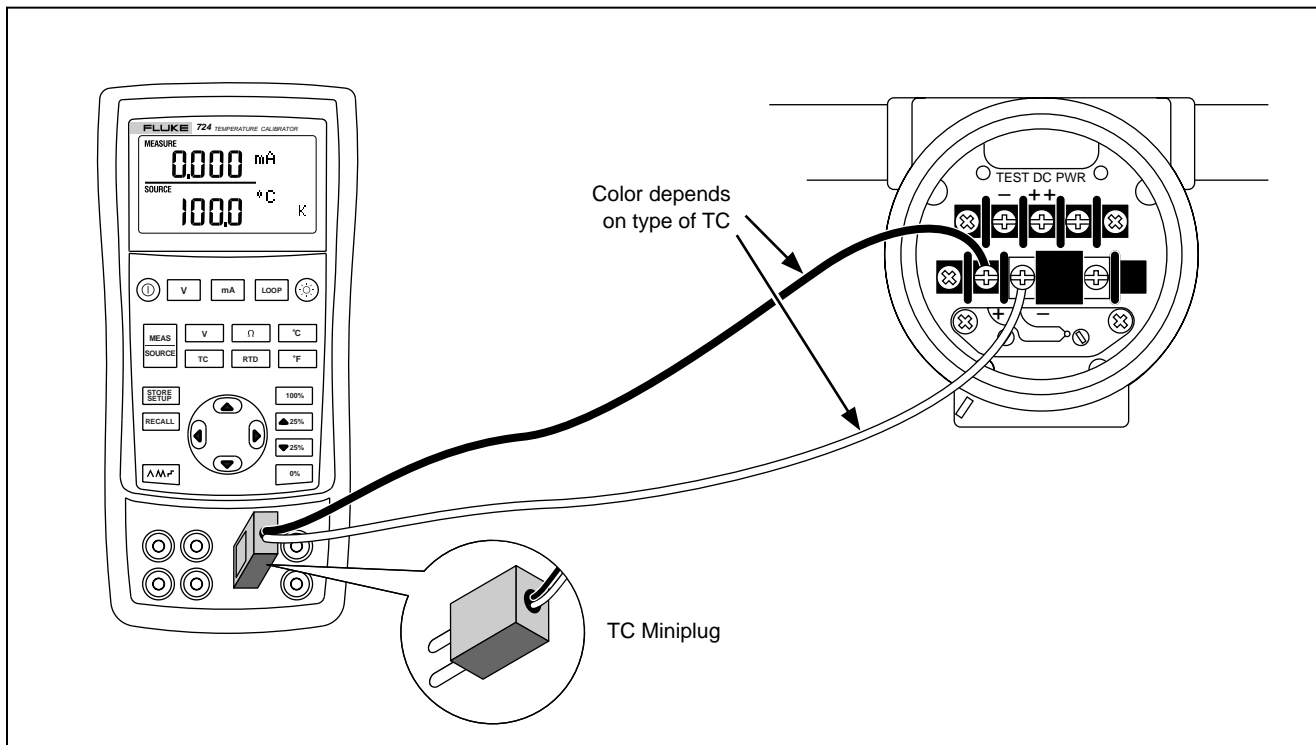

Figure 13. Connections for Simulating a Thermocouple
*One pin is wider than the other. Do not try to force a miniplug in the wrong polarization. Figure 13 shows this connection.*
1. Attach the thermocouple leads to the appropriate TC miniplug, then to the TC input/output as shown in Figure 13.